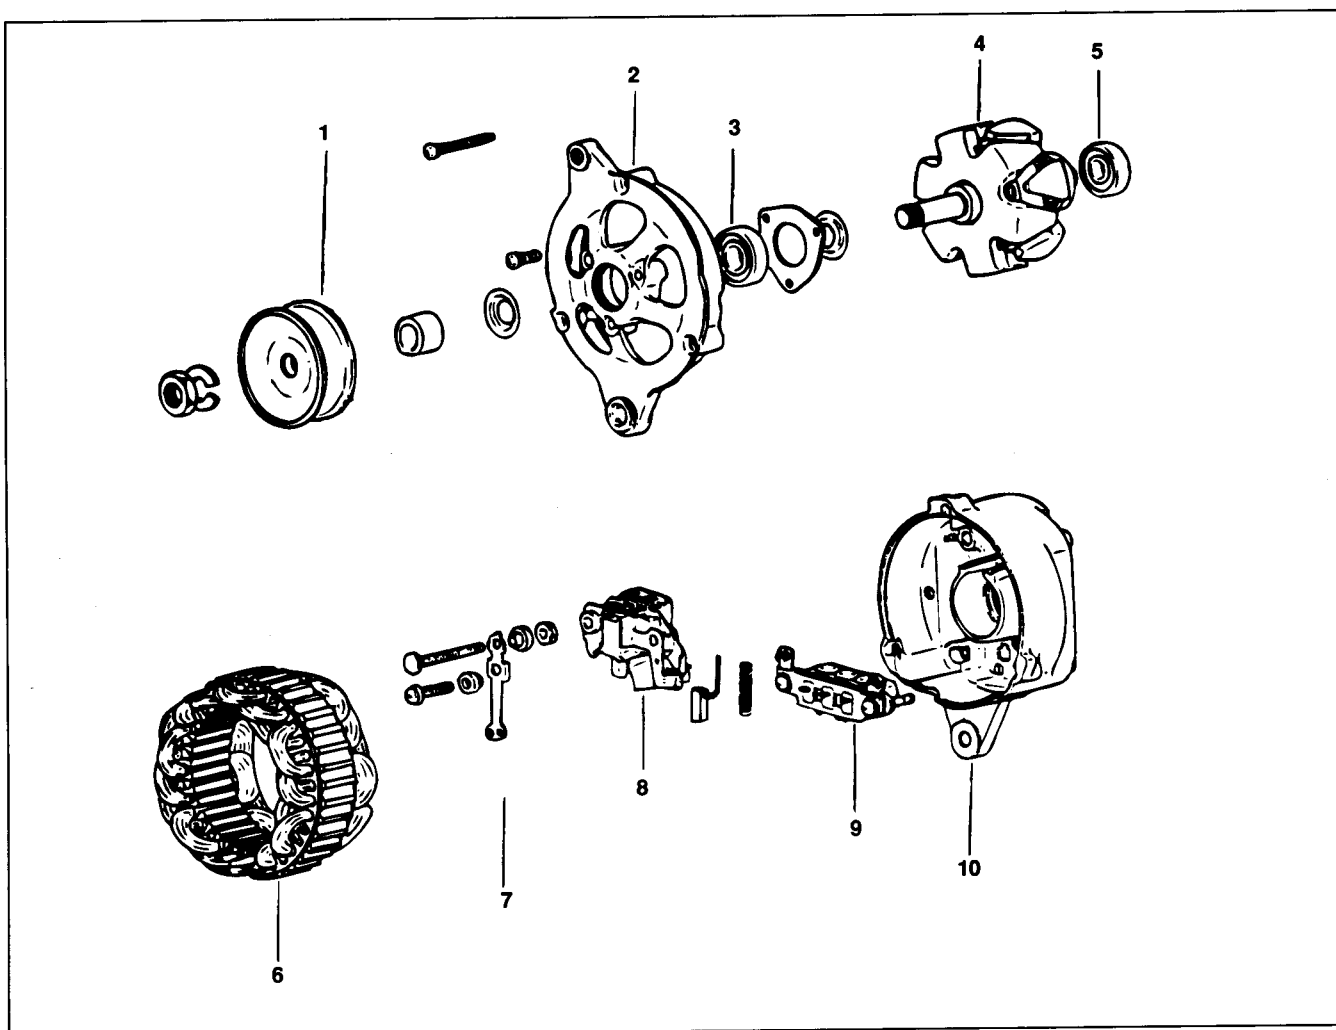

Figure 47
2. Remove the three through bolts (Fig. 47).